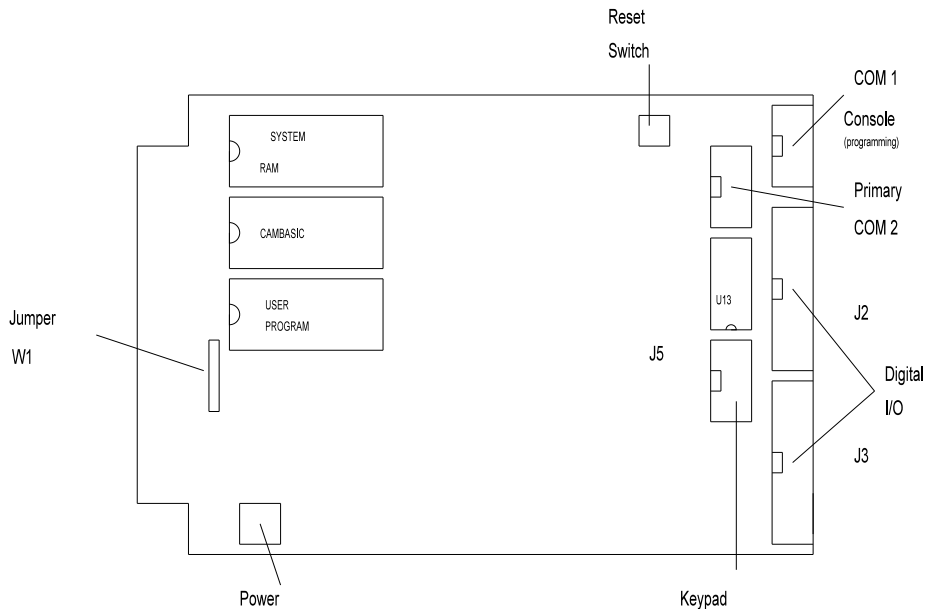

Figure 2-1 RPC-150 Connector Layout
Become familiar with the locations of the connectors before getting started. See Figure 2-1.
2. You can use either a PC or CRT terminal to program the RPC-150. Connect one end of the VTC-10 connector to then 10 pin COM1 (console) port on the RPC-150. Refer to Figure 2-1 for connector location.